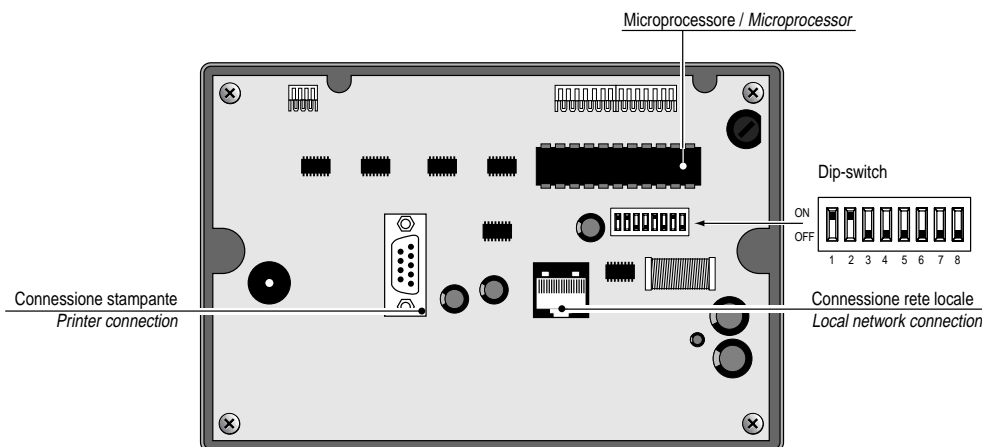

Fig. 5.2.1
La Fig. 5.2.1 rappresenta la scheda terminale vista posteriormente.
*Fig. 5.2.1 shows the rear view of the terminal board.*